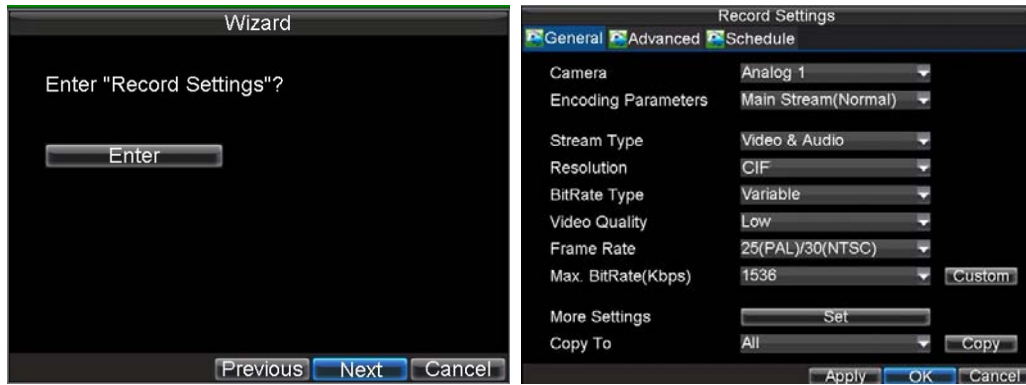

Figure 7. Record Settings
15. Click *Next* button to enter the **Record Settings** dialog box, as shown in Figure 7.